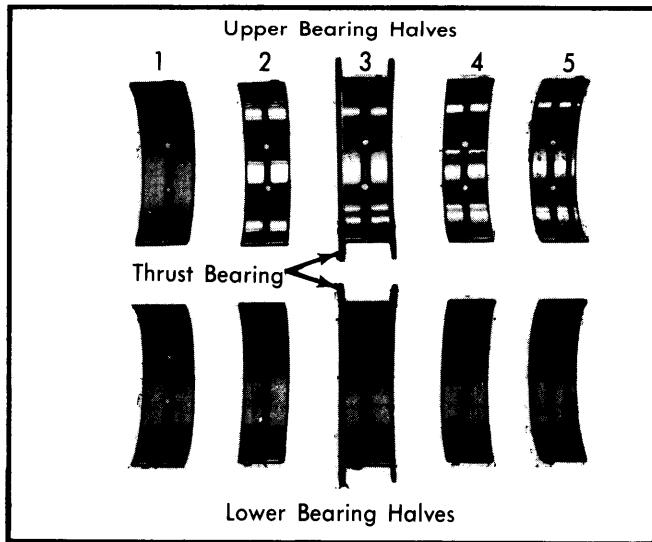

Fig. 5 Main Bearing Identification
4) No. 1 upper and lower bearings are interchangeable. No. 2 and 4 upper bearings are interchangeable; No. 2 and 4 lower bearings are interchangeable. No. 3 and 5 upper and lower bearings are not interchangeable and must be installed in original positions. See Fig. 5.